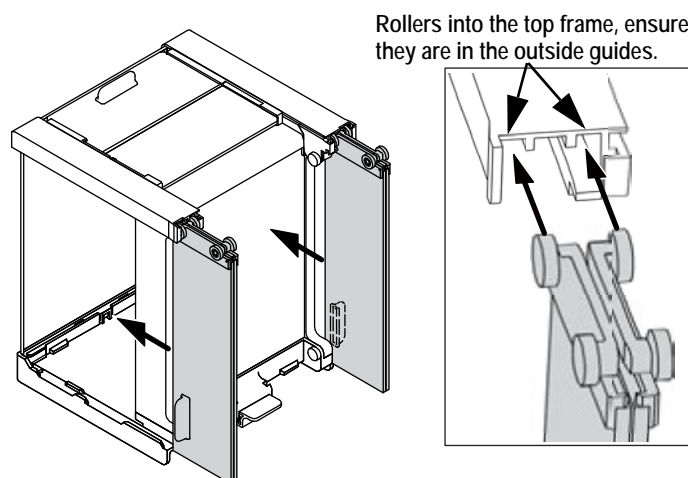

Figure 2-12. Insert Side Assemblies
11. With the panel with the handle facing toward the outside and the panels held tightly together insert the rollers into the frame of the top assembly as shown in Figure 2-12.